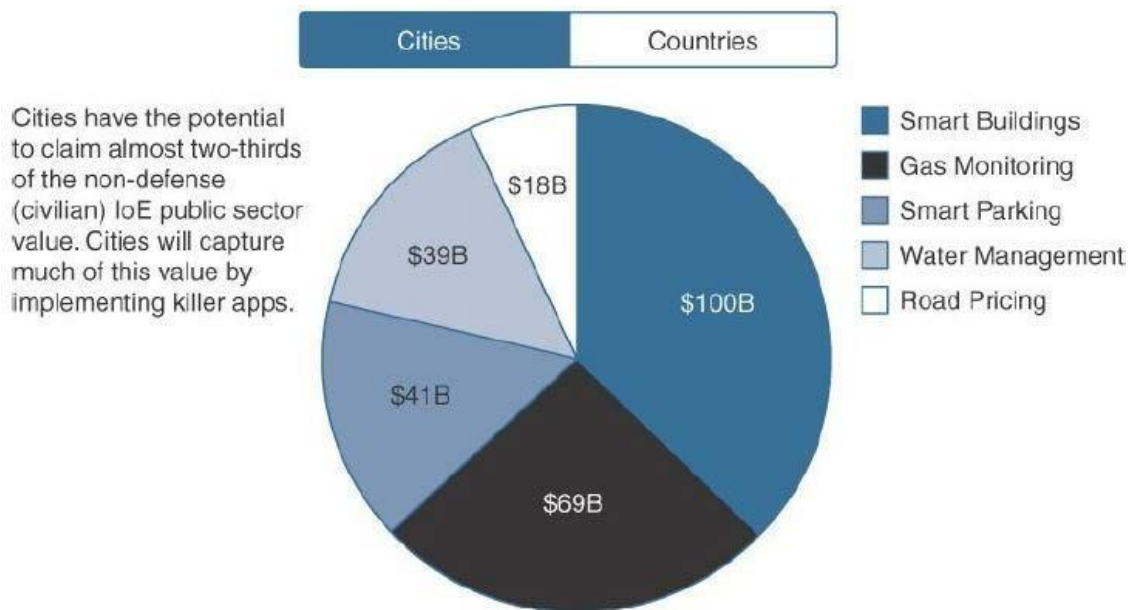

Figure 5.11 Key Use Cases for Smart Cities
- A recent Cisco study, as illustrated in Figure 5.11, expects IoT to have the following economic impact over a 10-year period: